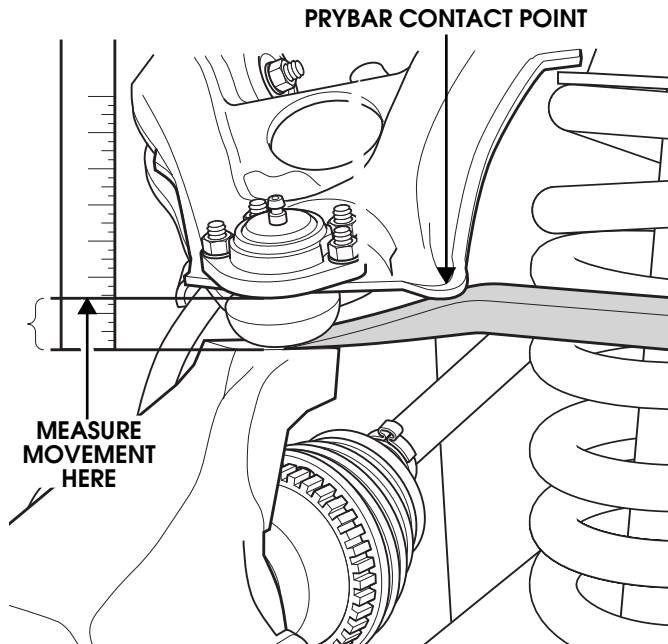

Figure 6-39: Upper Ball Joint Wear Check
4. Check upper ball joints: With the vehicle on the ground (being careful not to damage the boot), place the tip of a prybar between the steering knuckle and the ball joint boot (Figure 6-39). With the shank of the prybar contacting the upper control arm as shown, pry upward and note the movement of the ball joint against a ruler. Be careful to measure only the ball joint movement and not the flex of the control arm resulting from prying against it. Any upper ball joint with more than 1/16" (1.6 mm) movement should be replaced.